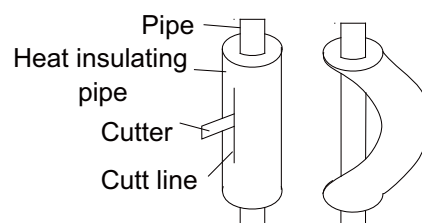

Fig.11
- (4). When bending the pipe, do not bend it as is. The pipe will be collapsed. In this case, cut the heat insulating pipe with a sharp cutter as shown in Fig.11, and bend it after exposing the pipe. After bending the pipe as you want, be sure to put the heat insulating pipe back on the pipe, and secure it with tape.